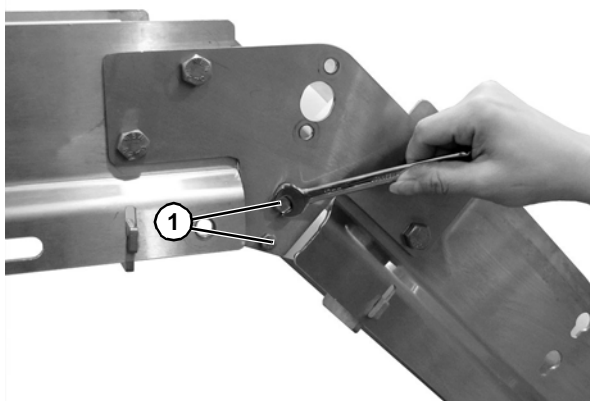
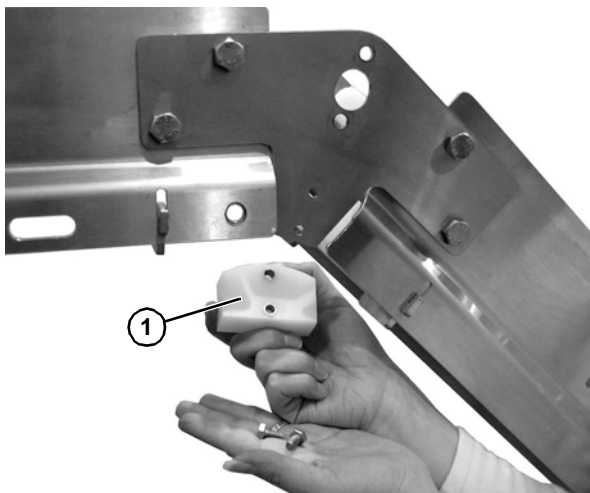

Figure 75
Figure 76
6. Remove two cap screws (**Figure 75, item 1**) and inner belt return guide (**Figure 76, item 1**). Repeat on opposite side of the conveyor.